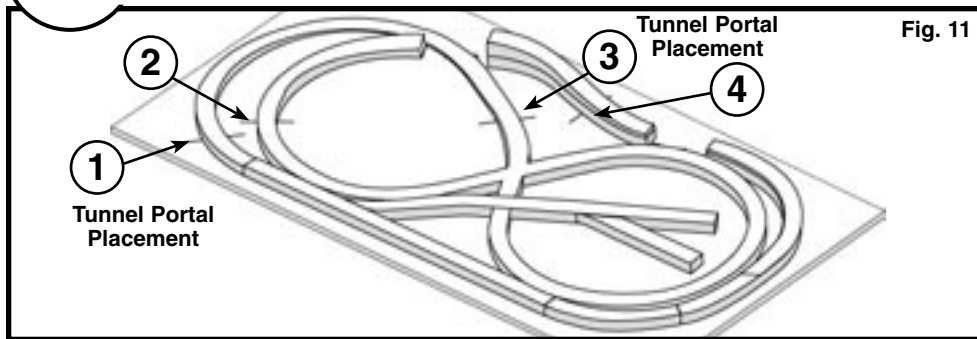
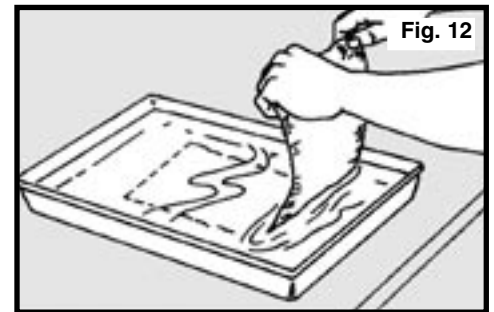
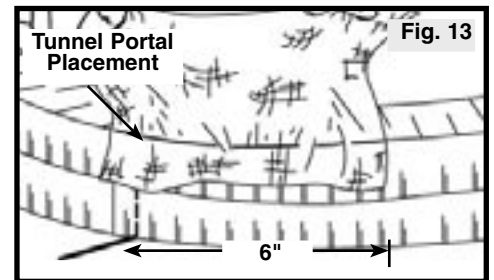
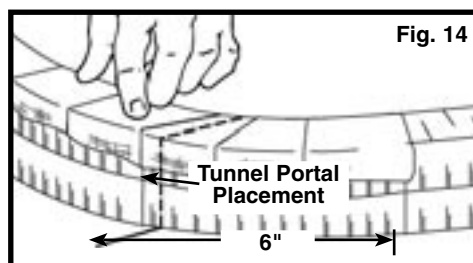

Fig. 11
Fig. 12
Fig. 13
Fig. 14
- Holding Plaster Cloth pieces by corners, dip Plaster Cloth in water (Fig. 12) and place on Riser, bumpy side up (Fig. 13), starting approximately 6" outside Tunnel Portal placement ① position as shown on base and work clockwise past Portal placement ③ approximately 6". Apply from 6" outside Tunnel Portal placement ② clockwise to 6" past Tunnel Portal placement ④ (Fig. 11).
- Plaster Cloth overlaps Riser sides by 1/2" - 1" (Fig. 13). Butt ends of strips. Smooth out wrinkles by rubbing Plaster Cloth with fingers (Fig. 14).